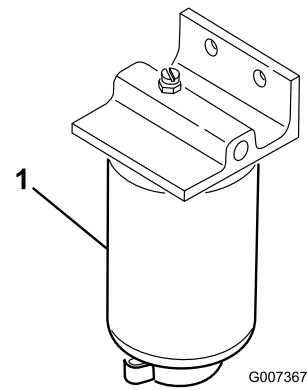

Figure 56
1. Place a clean container under the fuel filter (Figure 56).